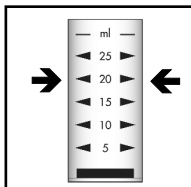

Figure 1
1. Fill the sample cup to the 20 mL mark with the sample to be tested. Fig. 1